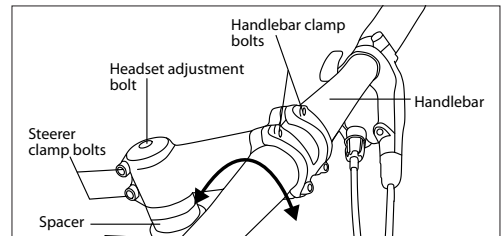

Fig. 45: Handlebar bolts on threadless stem
1. Decrease the tightness of the handlebar clamp bolts on the stem (Fig. 45).
2. Twist the handlebar by rotating it forward or backward. Make sure it remains in the center of the stem (Fig. 45 page 35).
- Threadless (Fig. 45 page 35)
Bicycles with aluminum steerer tubes should have at least one 5mm spacer under the threadless stem (Fig. 45).
1. Decrease the tightness of the steerer-clamp bolts two to three turns (Fig. 45).